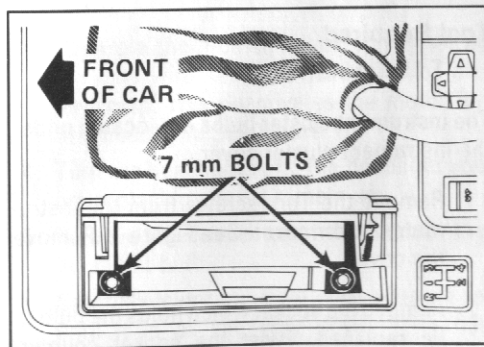

Figure 1 - Underneath ashtray (manual transaxle)
- Using the nut driver, remove the 7mm bolts under **each** ashtray. See Figure 1.